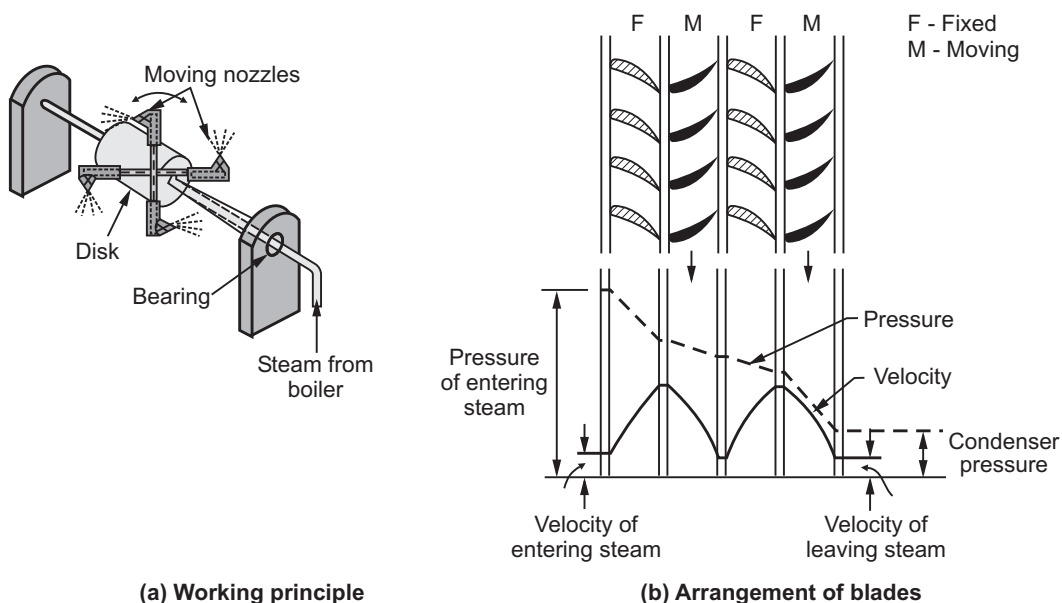

Fig. 3.3 : Reaction turbine
- In these turbines, the high pressure steam from the boiler is passed through the nozzles as shown in Fig. 3.3 (a).
- Fig. 3.3 (b) shows the blade arrangement for reaction turbine and the variation of pressure and velocity of steam passing through the turbine.